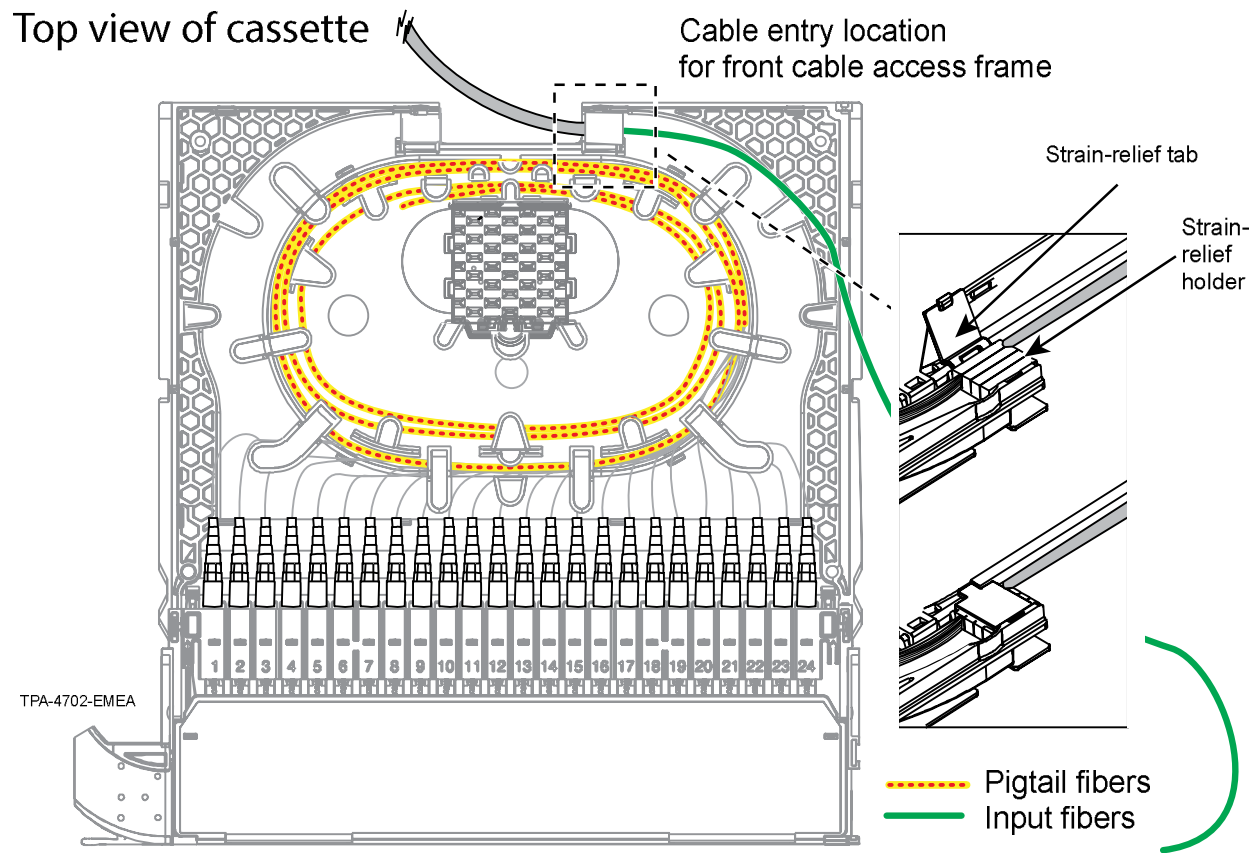

Figure 37
Step 5: Secure the end of the transport tube holding the input fibers in the strain-relief holder (Figure 37). Press the strain-relief tab closed to secure the fibers.